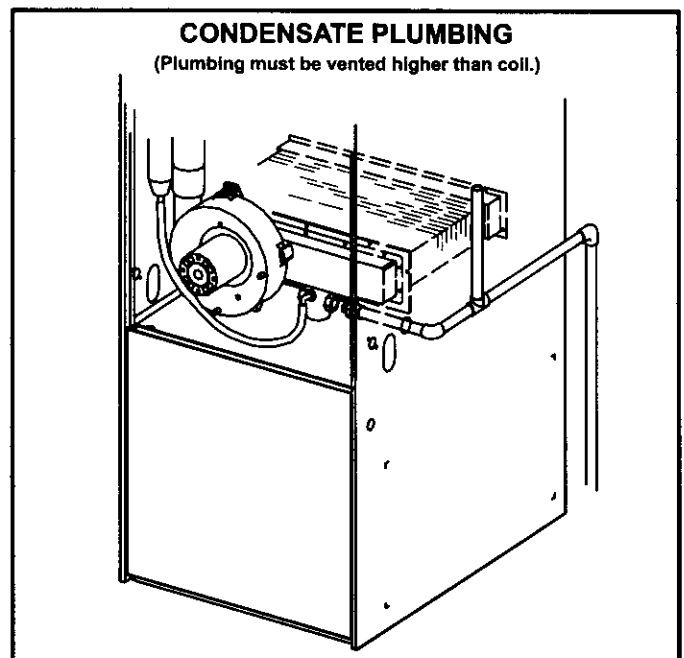

FIGURE 22
- 5 - Connect field supplied plumbing to nipple and route to open drain. Plumbing should be vented to a point higher than the condensing coil. See figure 22.